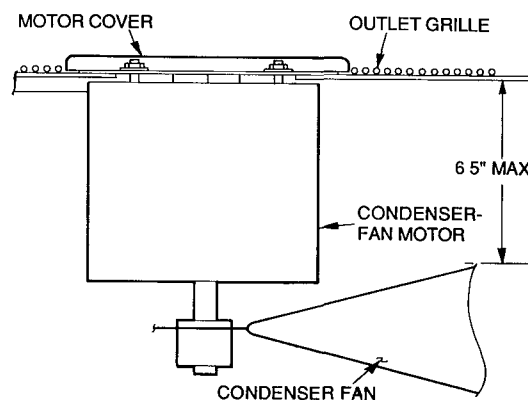

Fig. 17 – Condenser-Air Fan Adjustment
Condenser-Air Fan Adjustment (Fig. 17)
3. Adjust fan height as shown in Fig. 17.